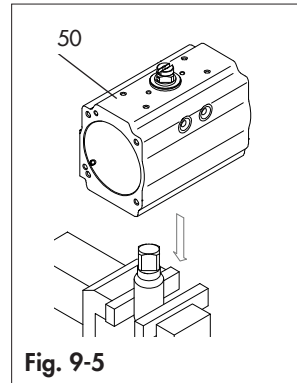
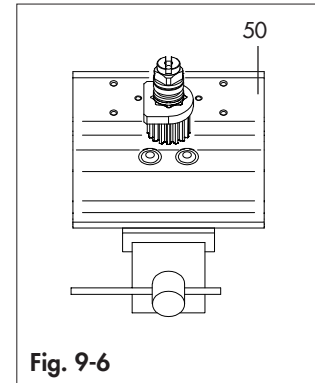
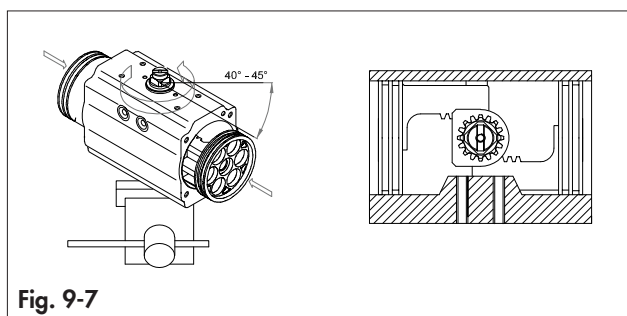
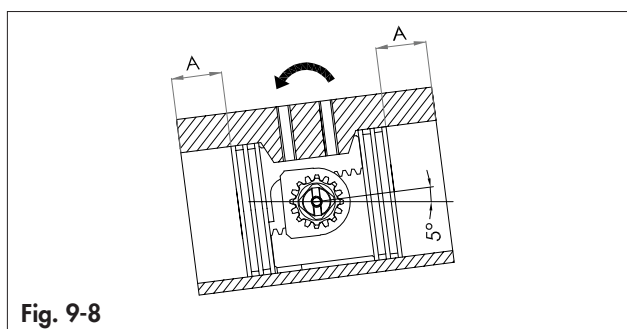

Fig. 9-5
Fig. 9-6
Fig. 9-7
Fig. 9-8
Refer to Fig. 9-5, Fig. 9-6, Fig. 9-7 and Fig. 9-8.
- Lubricate and place onto the pistons (49FM.0) the o-rings (16), piston backs (05) and the head bearings (15).
- Lubricate the internal surface of the body (50) and the piston (49FM.0) rack teeth.
- Insert the female connection of the drive shaft (60/60.1) in a properly fixed coupling joint. (Fig. 9-5).
- Make sure that the octi-cam (01) is in the right position as per the Fig. 9-6.
- Rotate the body (50) about 40°-45° clockwise from top view, as shown in Fig. 9-7.
- With pistons completely closed (0° position) as per Fig. 9-8, referring to the axis of the body, the rotation obtained must be about over 0° up to 5°
- With pistons completely closed (0° position) as per Fig. 9-8 the dimension "A" must be the same on both sides.